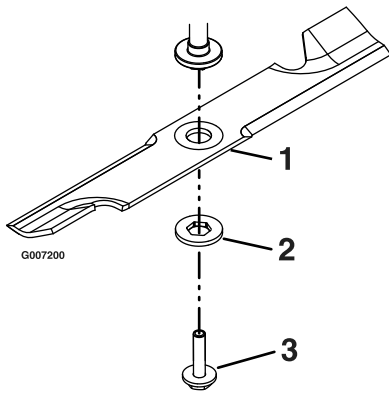

Figure 35
2. With the wrench still on the blade bolt, hold the blade spindle stationary and using a rag or thickly padded glove, try to rotate the blade. If the blade rotates relative to the spindle guard without further tightening the blade bolt, the spring disc washer has been flattened or damaged and the bolt and washer assembly must be replaced (Figure 35). Refer to **Removing the Blades and Installing the Blades**.
Hold the blade end using a rag or thickly-padded glove (or place a wrench on the top sheave nut). Remove the blade bolt and washer assembly, washer, and blade from the spindle shaft (Figure 35).
1. Install the blade onto the spindle shaft (Figure 35).